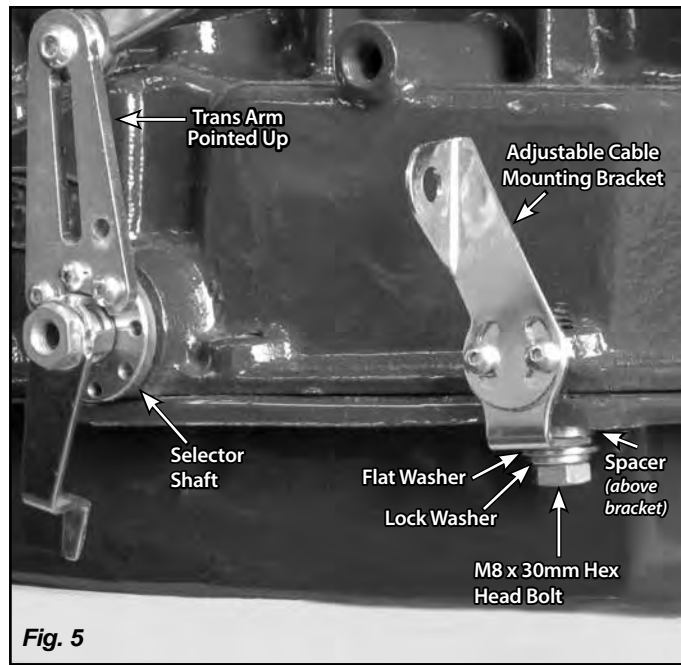
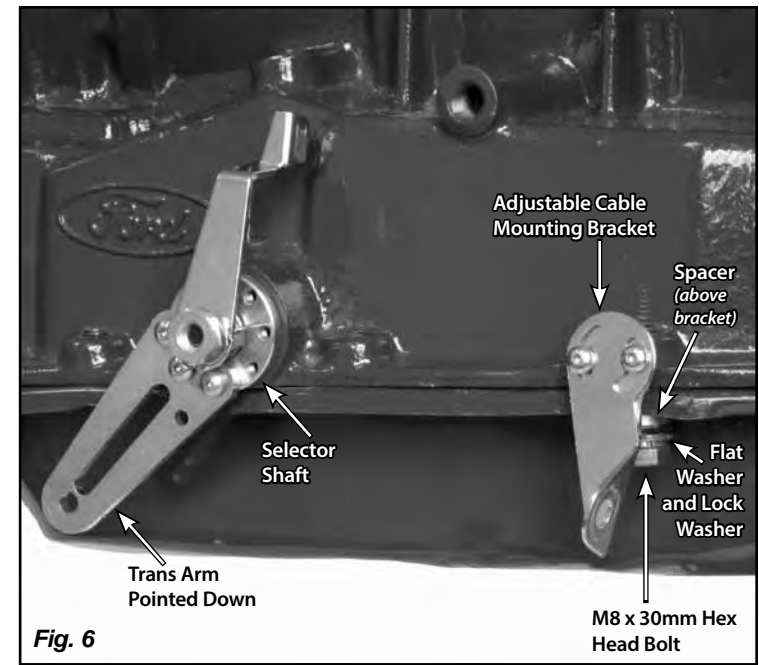

Fig. 5
Fig. 6
**NOTE:** If you have an aluminum transmission pan, the spacer may not be required. Fig. 5 and Fig. 6
- **With a Lokar selector shaft:** The trans arm has a 3/16" diameter hole in it for the indicator cable to connect to. Make sure that this hole is to the rear of the slot in the trans arm. If it is not, remove the trans arm and re-install it with the 3/16" hole to the rear of the slot in the trans arm. **Fig. 5 and Fig. 6**